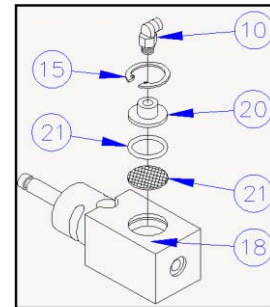

Figure 13. Diaphragm Installation
Lay the Wet Head on its side with the diaphragm cavity facing up, as seen in figure 13. Making sure that the surface is clean; insert the Diaphragm (22) into the pocket. Place the “O” Ring (21), then the Diaphragm Insert (20), followed by the internal Snap Ring (15), on top of the Diaphragm.